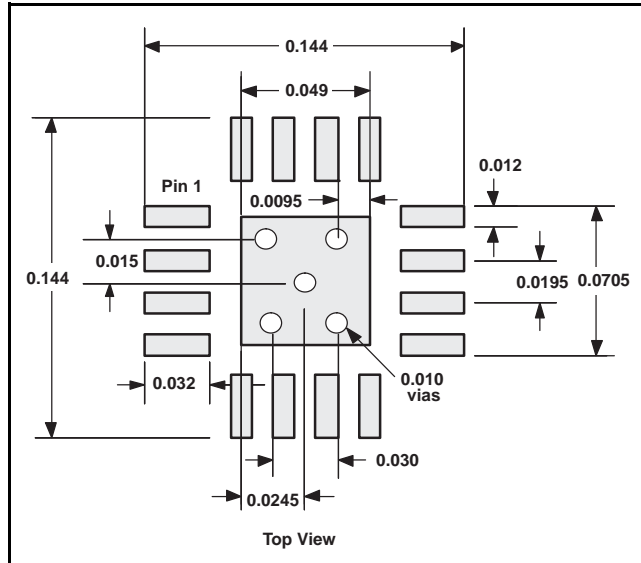

Figure 54. PowerPAD PCB Etch and Via Pattern
9. The recommended printed circuit board (PCB) footprint for the THS4511 is shown in Figure 54.
1. Prepare the PCB with a top side etch pattern as shown in Figure 54. There should be etch for the leads as well as etch for the thermal pad.